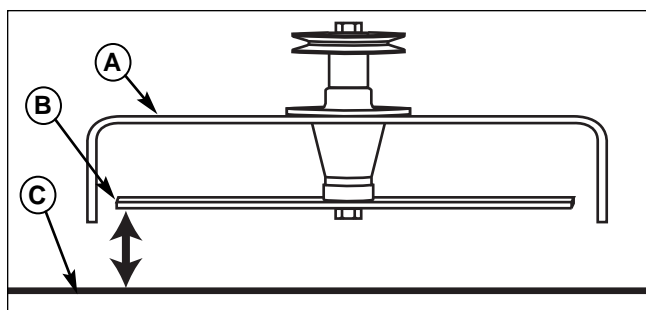

Figure 41. Measure Blade Tips to Ground
7. Measure the distance from the ground to the front tip of the center blade, and from the ground to rear tips of left-hand and right-hand blades (Figures 41 & 43). The front tip of the center blade should be 1/4" (6mm) higher than rear tips of left-hand and right-hand blades. If not, proceed with steps 8 - 11.